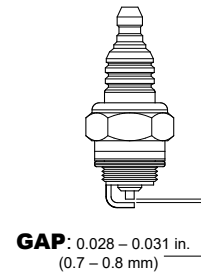

Figure 37. Spark Plug Gap
1. Remove and clean the spark plug (Figure 37), then adjust the spark gap to 0.024 ~0.028 inch (0.6~0.7 mm). This unit has electronic ignition, which requires no adjustments.